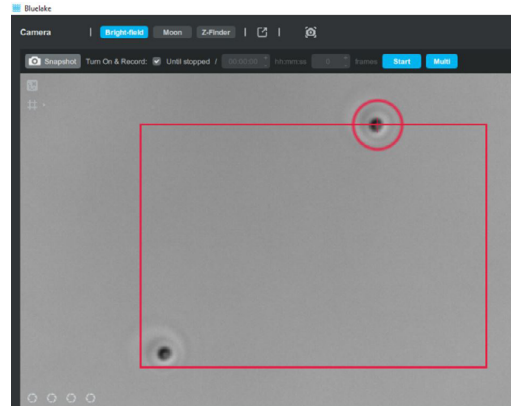

Figure 1
- Visualize Trap 1 and align Trap 1 with the red circle, either by moving the “Trap 1 + 2” control or press “shift” and left-click on the bead in Trap 1 (Figure 1).